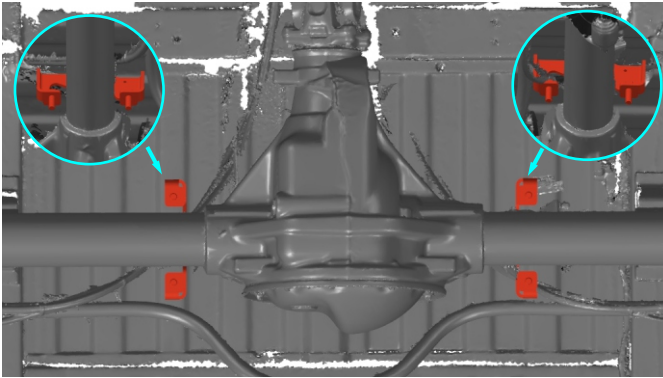

Fig. 1
1. Install side brackets (item 2) as shown in fig.1.